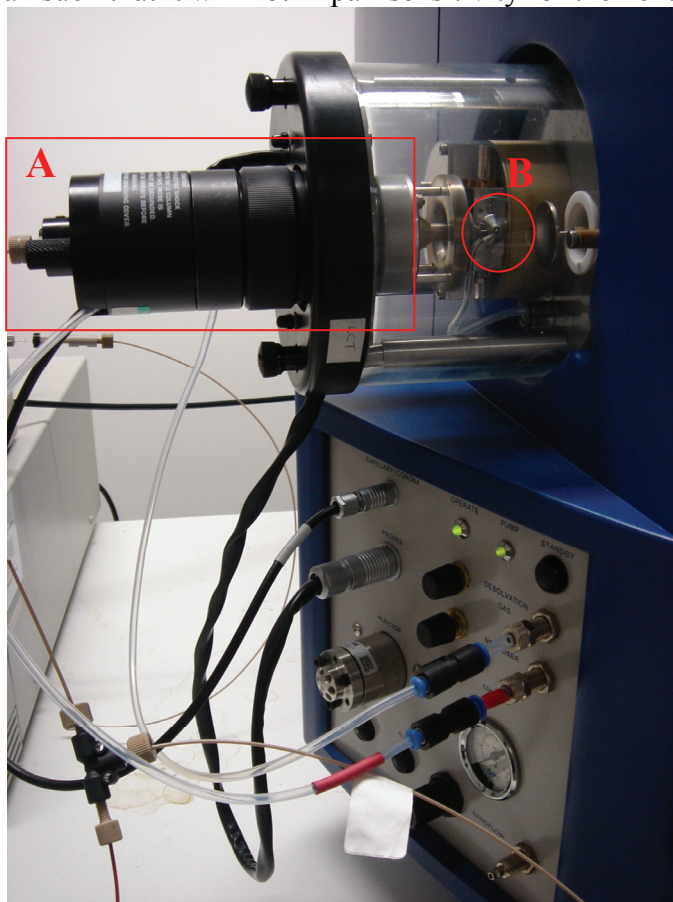

Figure 2: ESI probe (A) and cone (B).
- 1.2 Is the sample cone clean (B in figure 2)? Any visible browning or other discolouration/deposit close to the cone's orifice will reduce the sensitivity of
the instrument. It is your responsibility to ensure the instrument, and the cone, is left clean such that it will not impair sensitivity for the next user (Fig 2).